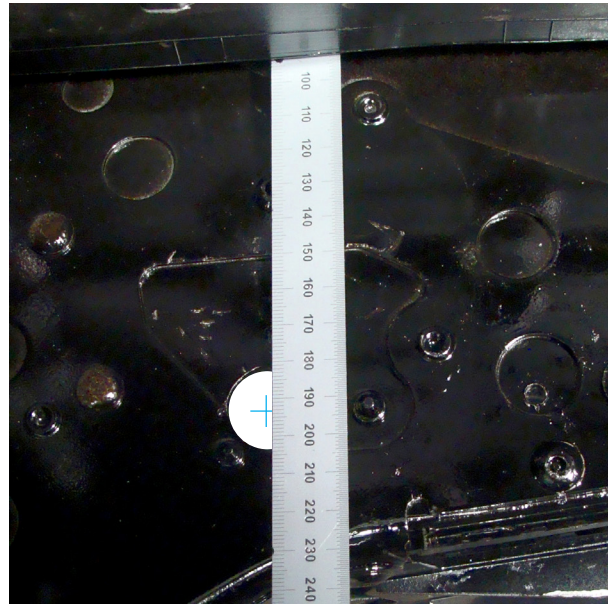

Figure 5: second mark for drill hole
2. Measure 190 mm (7.480 in) down from the top of the tunnel and make a mark (Figure 5).